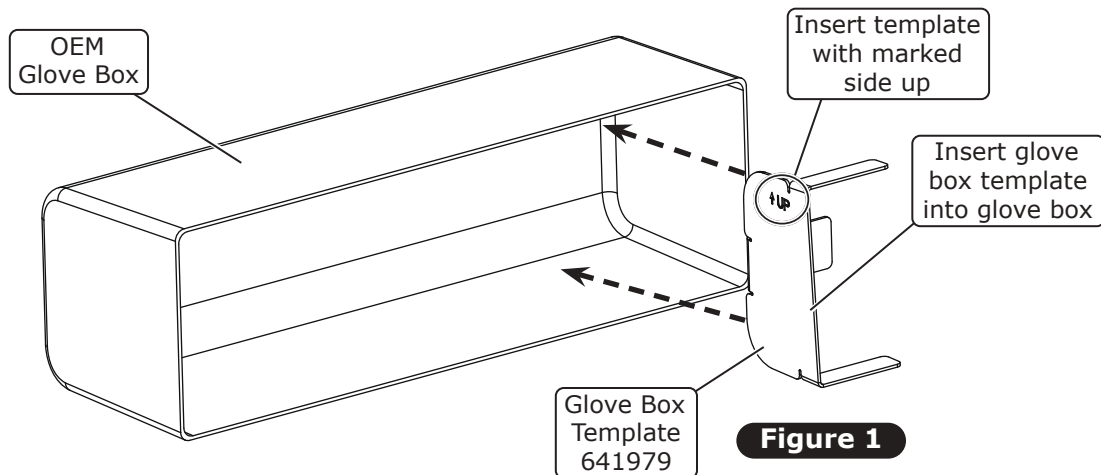

Figure 1
1. Insert the glove box template into the glove box with the marked side up as shown in Figures 1 and 2, below.